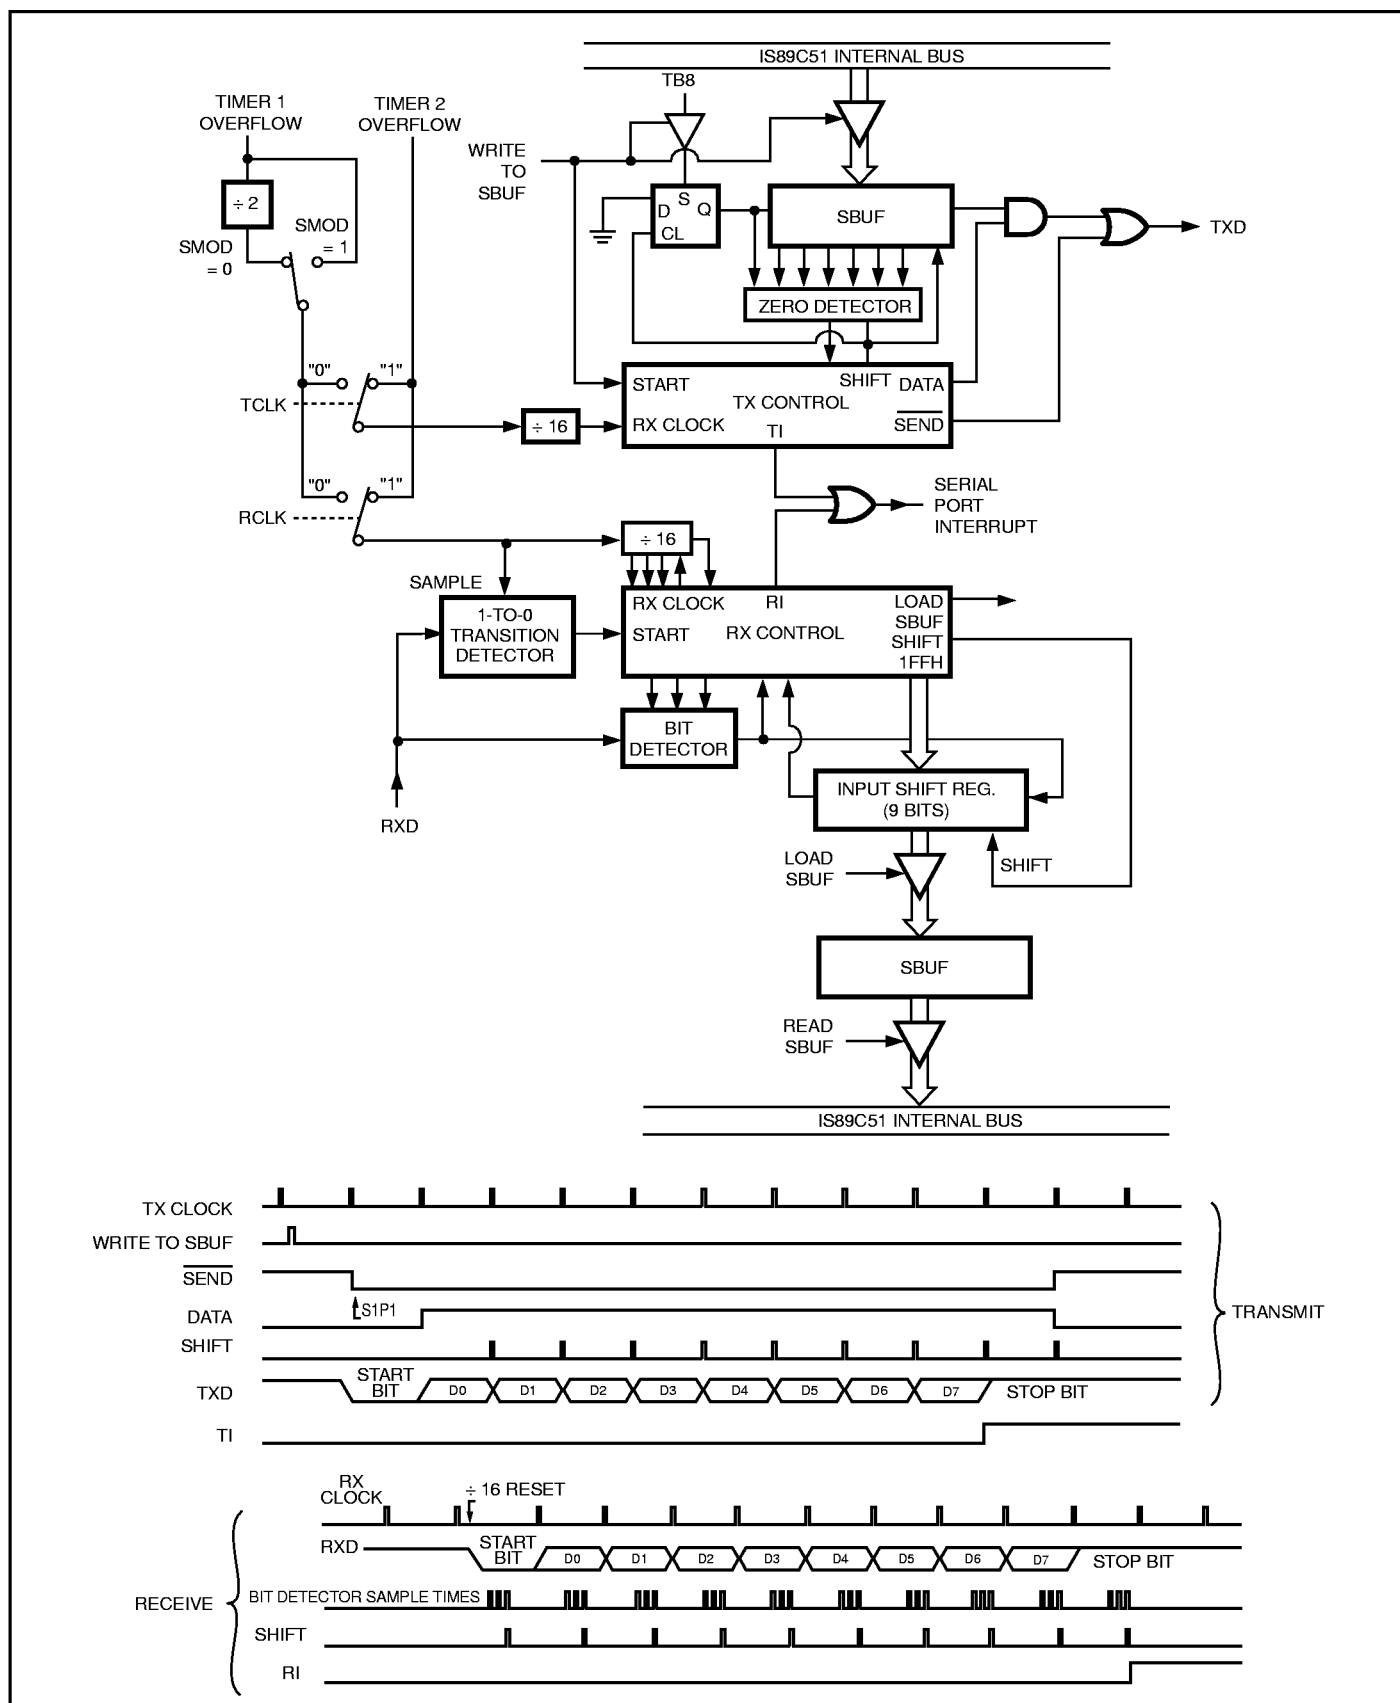

Figure 12. Serial Port Mode 1
Ten bits are transmitted (through TXD) or received (through RXD): a start bit (0), eight data bits (LSB first), and a stop bit (1). On receive, the stop bit goes into RB8 in Special Function Register SCON. The baud rate is variable (see Figure 12).
Figure 12 shows a simplified functional diagram of the serial port in Mode 1 and associated timings for transmit and receive.